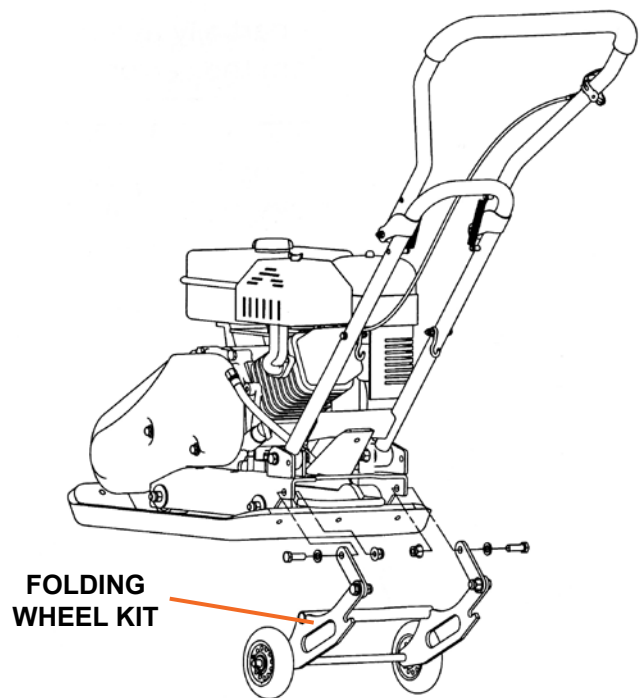

Figure 3
1. Position the folding wheel assembly at the rear of the plate compactor. Line up the holes in the mounting links with the holes in the engine deck and secure with hex bolt (M10x30mm), flat washer and lock nut on each side (see Figure 3).